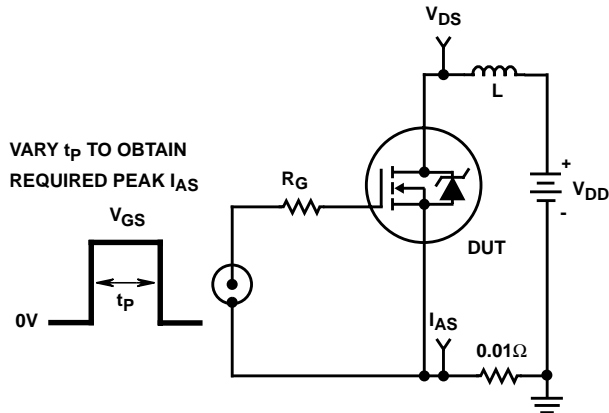

FIGURE 15. UNCLAMPED ENERGY TEST CIRCUIT
4.  $V_{DD} = 25\text{V}$ , starting  $T_J = 25^\circ\text{C}$ ,  $L = 440\mu\text{H}$ ,  $R_G = 25\Omega$ , peak  $I_{AS} = 28\text{A}$ . (Figures 15, 16).